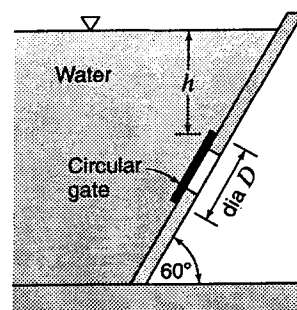

Figure X3.7.7
3.7.7 Find the magnitude and depth of the point of application of the force on the circular gate shown in Fig. X3.7.7 if  $h = 5$  ft and  $D = 4$  ft dia.